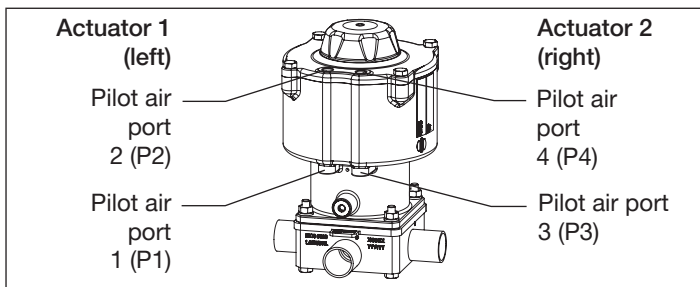

Fig. 19: Pneumatic connection
3) Actuator assignment see "Fig. 19".
4) Actuator assignment see "Fig. 19".